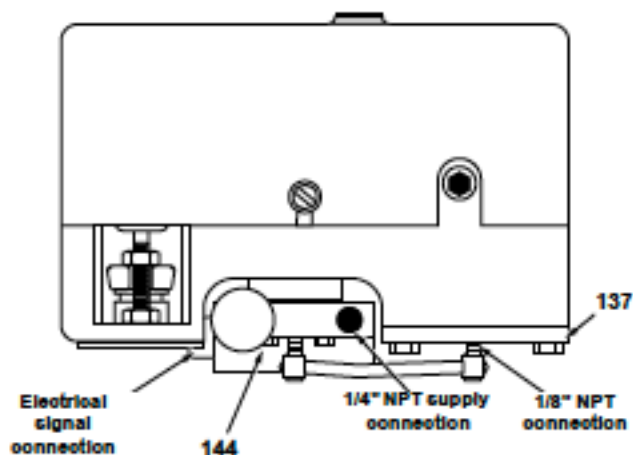

Figure 12 - Connections with 7700E positioner
- Control valve with 7700E positioner (electrical signal): connect the manifold block (144) air supply line and make the electrical connection for the I/P module (20) (figure 12). Use 4 x 6 mm (1/4" O.D.) tubing for the air line.